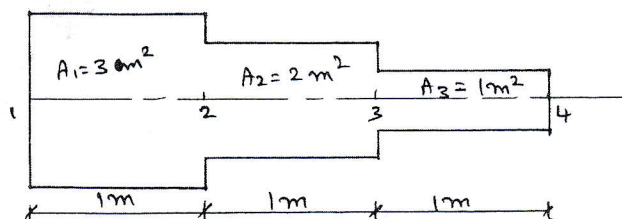

Fig.Q8(b)
b. For the smooth pipe of variable cross-section shown in Fig.Q8(b), determine the potential at the junction, the velocities in each section of pipe and the volumetric flow rate. The potential at left end is $P_1 = 10 \text{ m}^2/\text{s}$ and at right end is $P_4 = 1 \text{ m}^2/\text{s}$. For the fluid flow through a smooth pipe $k_x = 1$.